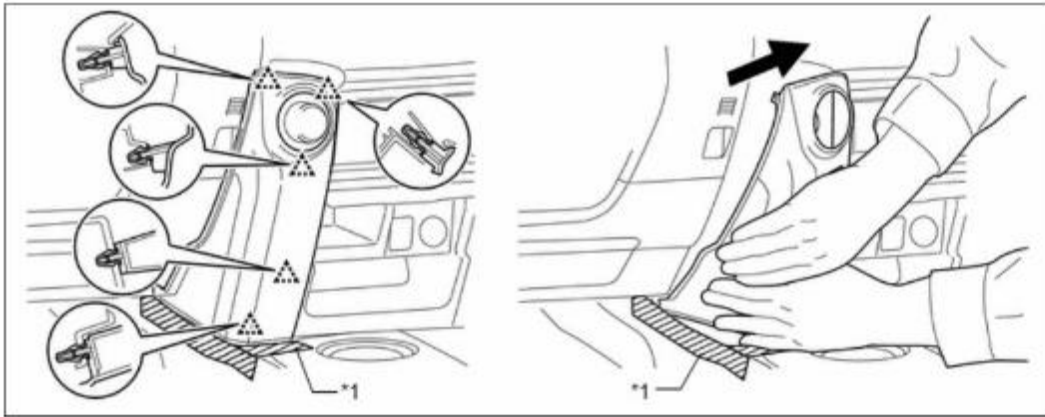

Figure 9
14. Re-install drain plugs, with both front and rear harnesses threaded through the plugs (Figure 9).